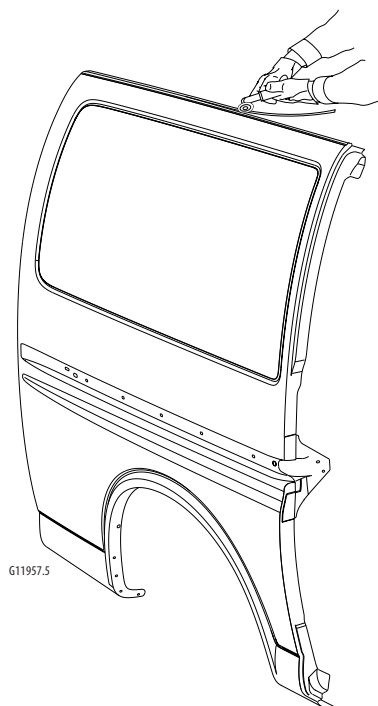

Figure 7-5:
1. Trim and discard the upper mounting flange on the service panel so that it can fit over the 50mm (2 inch) tab left from the original panel (figure 7-5)